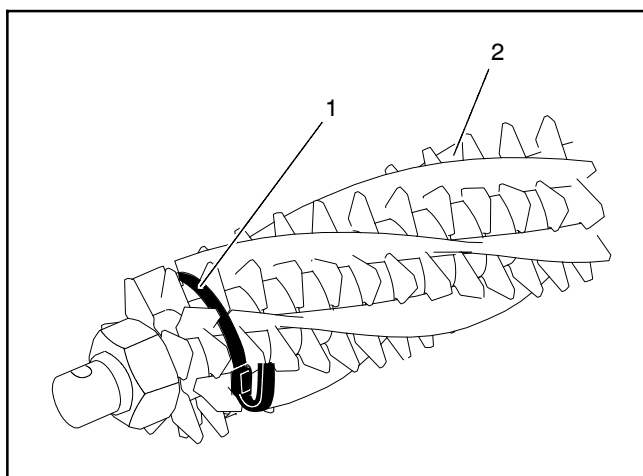

Figure 16
3. If groomer reel is equipped with broomer kit, remove straps and broomer brushes from reel (Fig. 16).
E. Cut off strap extension approximately 1/4" (6 mm) beyond retainer and fold the excess strap over the buckle (Fig. 16).